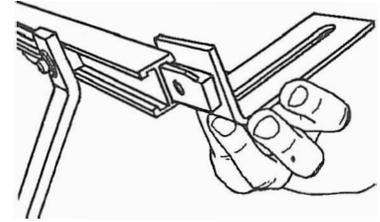

Fig. A-35
**29.** Slip a T-nut in the left side of the support, as seen in Fig. A-35. Do the same for the right side.